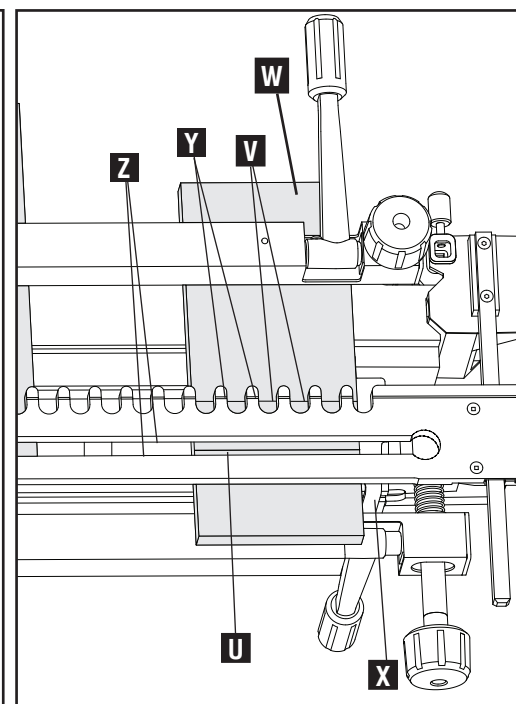

Fig. H16
2. Mount dado board (W) Fig H16 horizontally with the outside surface facing down and the rear edge to the right. Line up the rear edge of the dado board with the right edge of the textured surface of the jig base. Line up the pencil line mark (V) with the scribed line (Y) in the fixed fingers and line up the dado line (U) in the middle of the slot (Z). If you intend on making multiple cuts, it is recommended that you slide the right edge guide over until it is flush with the right side of the of the dado board and tighten it down. The edge guide can then be used as a reference for the proceeding dado board cuts. Remove the stabilizer bar from the jig if it interferes with the dado board.